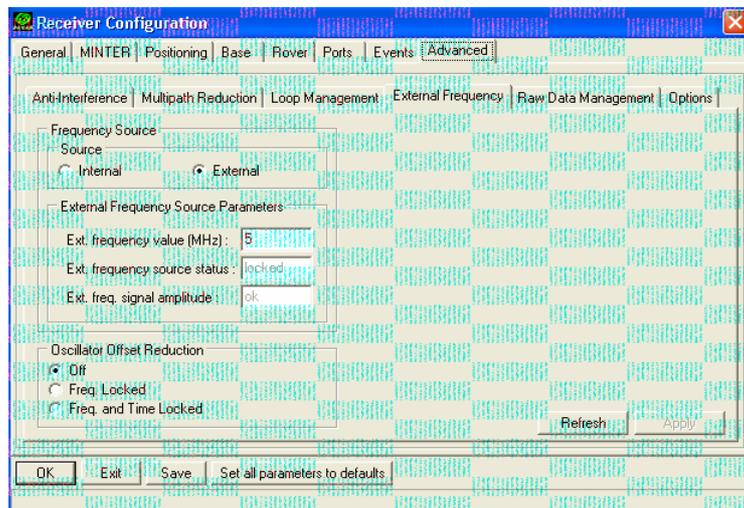

Figure 2: Configuration of frequency input using software PCVU (see Annex D.2)
1. The reference frequency input must be a 5/10-MHz sinusoidal signal with a peak-to-peak amplitude ranging from 0.5V to 3.0V in 50  $\Omega$ . Make sure that the receiver is locked to the frequency input and that the receiver is not adjusting its internal oscillator's frequency (OFF-mode), see Figure 2.
- The 1-pps output is related (with an unknown but constant time offset) to the internal clock of the receiver (if configured correctly, see Figures 2 and 3).
- The internal clock of the receiver is synchronized at start-up (or manually at any time) to the first positive going zero-crossing of the frequency input, derived from the 5/10-MHz input, that follows the 1-pps input (if configured correctly, see Figures 2 and 3). After synchronization, the internal clock of the receiver is disciplined to the 5/10-MHz frequency input.